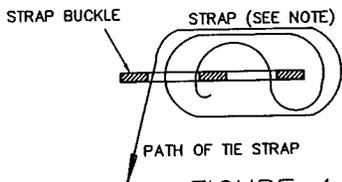

FIGURE 4-8
4. EACH OF THE STRAPS AND CONNECTIONS TO THE I-BEAM MUST HAVE AN ULTIMATE STRENGTH OF 4725 LBS. SEE FIG. 4-8 THROUGH 4-12.